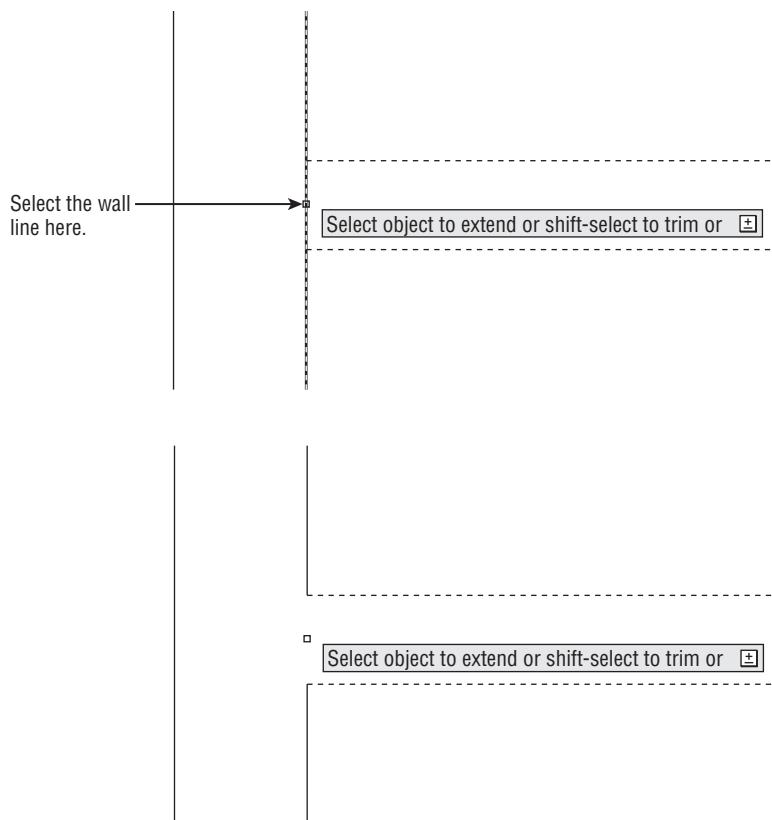

FIGURE 4.23 Selecting a line to be trimmed (top), and the result of the EXTEND command used in conjunction with the Shift key (bottom)
5. Press and hold the Shift key while you select the inside exterior wall line at the T-intersection between the two intersections with the interior wall lines that you have just picked as boundary edges (see the top of Figure 4.23).
The exterior wall line is trimmed at the T-intersection (see the bottom of Figure 4.23). Press the spacebar to end the TRIM command.